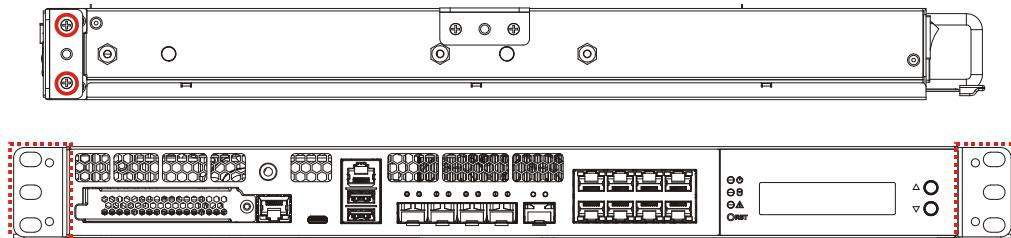

Figure 3-15: Rack Mount Bracket Installation
- Step 1:** Install the rack mount brackets to the sides of the PUZZLE-7030A by inserting two retention screws (M4*6) into each bracket (**Figure 3-15**). Make sure the screws are tight and on the right positions.